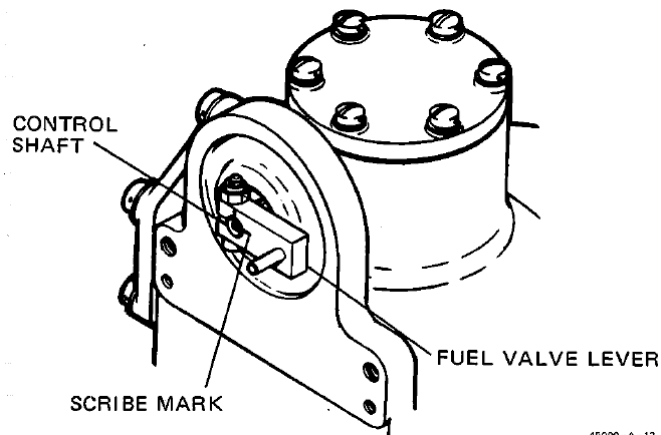

Figure 3-1. Scribe Mark Location for Alignment during Reassembly
1. To ensure proper alignment of lever (4, Figure 4-1) with the control shaft (22) during reassembly, scribe an "L" or "V" shaped mark from the center of the control shaft (see Figure 3-1) across the lever approximately 1/8 inch (3 mm).